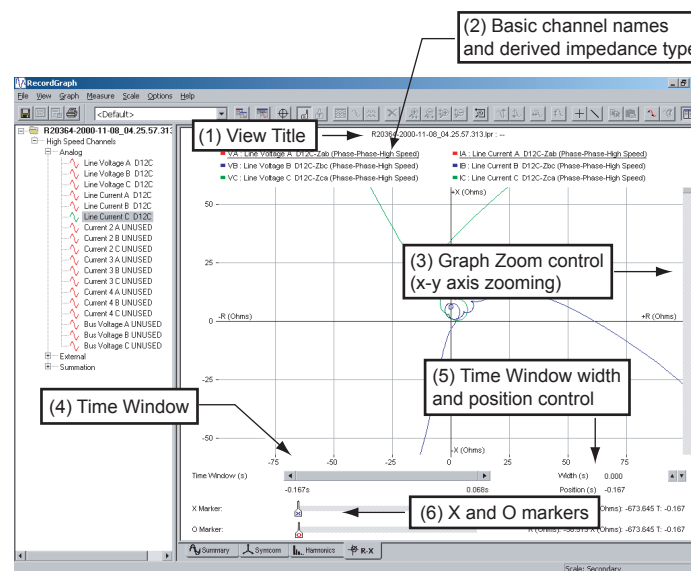

Figure 10.65: Opening Impedance Screen
- (1) A text component displays the title at the top of the Impedance View shown in Figure 10.65: Opening Impedance Screen. The title is compiled from items in the Title Options dialog box. Default title is the file name and trigger event.
- (2) The basic channel names are displayed below the title, refer to table “Channel Types” on page 10-43.
- (3) The graph zoom is controlled using the sliding control on the right side of the window. The R-X plot aspect ratio is maintained under all zooming tools. The graph zoom control offers a 10x zoom factor between minimum and maximum amplitude of the data (R and X coordinates).
- (4) The Time Window control provides a means to select the range of data for better presentation of R-X values. For example, if the voltage and current channels are recorded from 0.0 to 0.2 seconds with 1000 data points, using this control, you can choose to view only 0.1 second data (500 points).
- (5) Time window width and position control can be used for the precise data analysis.
- (6) Control the X and O markers.